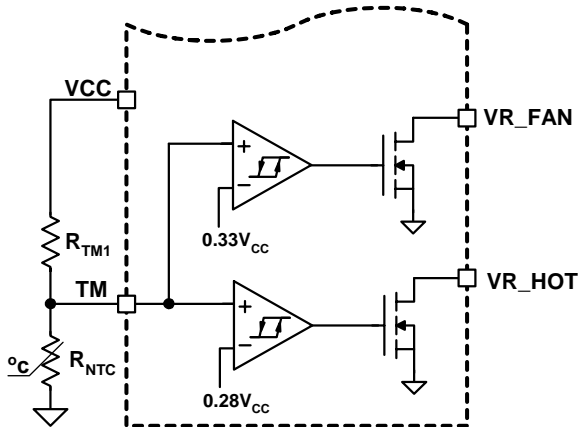
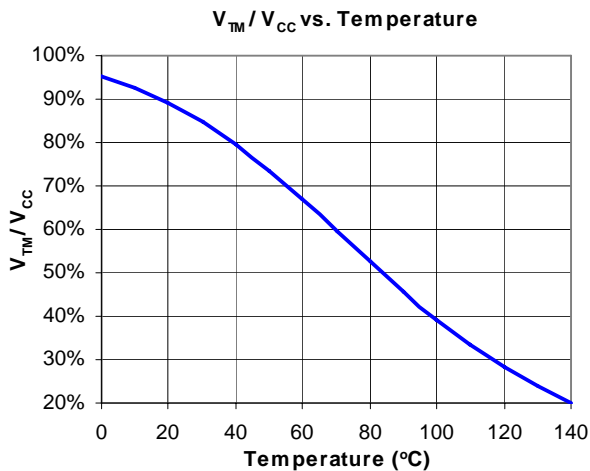

FIGURE 11. BLOCK DIAGRAM OF THERMAL MONITORING FUNCTION
FIGURE 12. THE RATIO OF TM VOLTAGE TO NTC TEMPERATURE WITH RECOMMENDED PARTS
The diagram of thermal monitoring function block is shown in Figure 11. One NTC resistor should be placed close to the power stage of the voltage regulator to sense the operational temperature, and one pull-up resistor is needed to form the voltage divider for the TM pin. As the temperature of the power stage increases, the resistance of the NTC will reduce, resulting in the reduced voltage at the TM pin. Figure 12 shows the TM voltage over the temperature for a typical design with a recommended  $6.8\text{k}\Omega$  NTC (P/N: NTHS0805N02N6801 from Vishay) and  $1\text{k}\Omega$  resistor RTM1. We recommend using those resistors for the accurate temperature compensation.
Based on VCC voltage, ISL6326 converts the TM pin voltage to a 6-bit TM digital signal for temperature compensation. With the non-linear A/D converter of ISL6326, the TM digital signal is linearly proportional to the NTC temperature. For accurate temperature compensation, the ratio of the TM voltage to the NTC temperature of the practical design should be similar to that in Figure 12.
1. Properly choose the voltage divider for the TM pin to match the TM voltage vs temperature curve with the recommended curve in Figure 12.